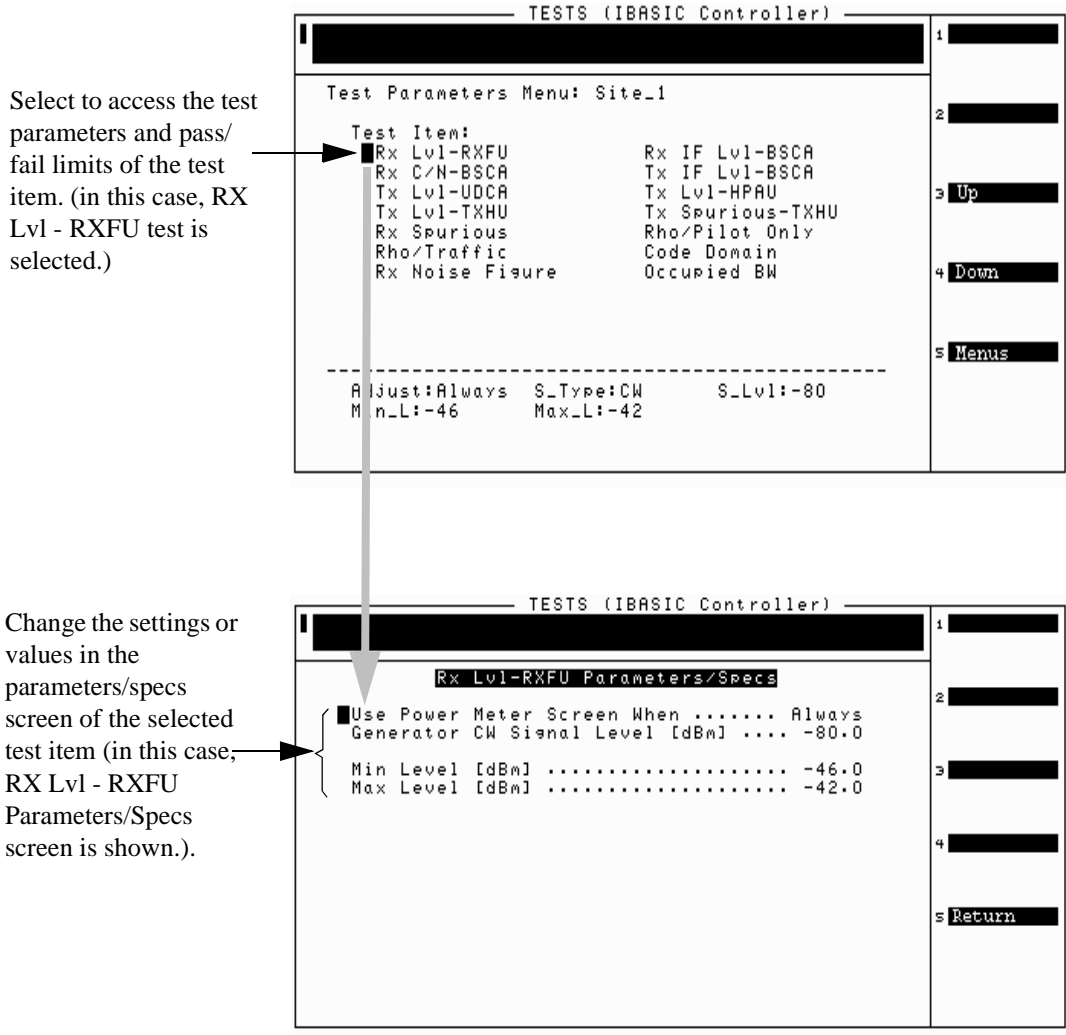

Figure 13 Test Parameters/Specs Menu
3. Select `Test Parameters/Specs`. (To "select," turn the knob to move the cursor to your choice, and press the knob to activate your choice.). The `Test Set` shows the list of test items. See the upper screen in figure 13 on page 46.
4. Select the test for which you want to change the test parameters and pass/fail limits. The `Test Set` shows the predefined test parameters and pass/fail limits for the selected test. See figure 13 on page 46.